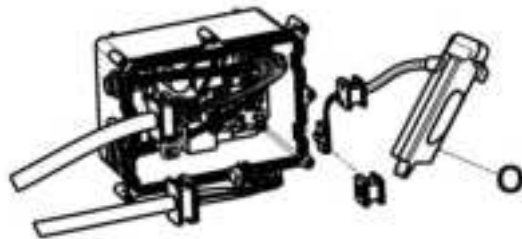

Figure 6
11. Insert and connect the supplied cot comm board (650700080203) (O) to the J10 connector on the HBC control board (Figure 6).